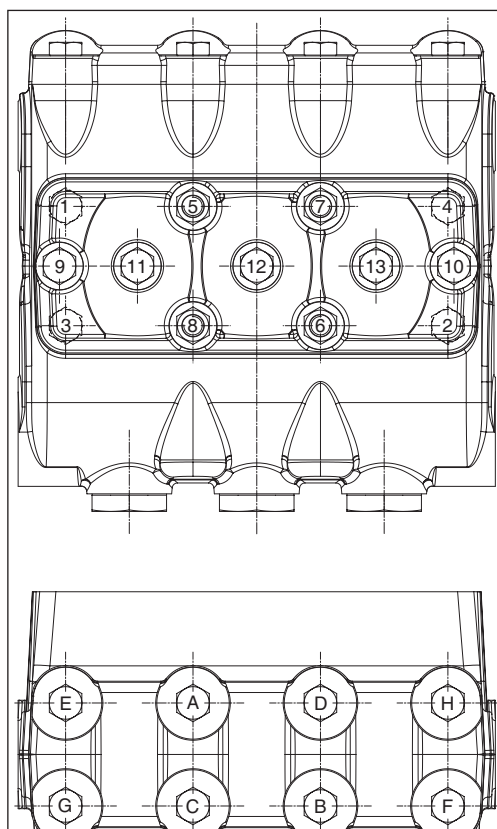

Fig. 141
** The head and cover fixing screws and nuts must be tightened with a torque wrench, lubricating the threaded shank, respecting the order shown in the diagram in Fig. 141.